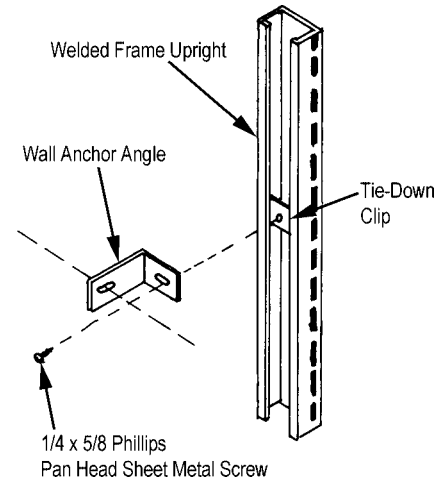

FIGURE 11
2. Fasten wall anchor angle to upright of frame by using a tie-down clip and a 1/4 x 5/8 Phillips pan head sheet metal screw. See Figure 11.